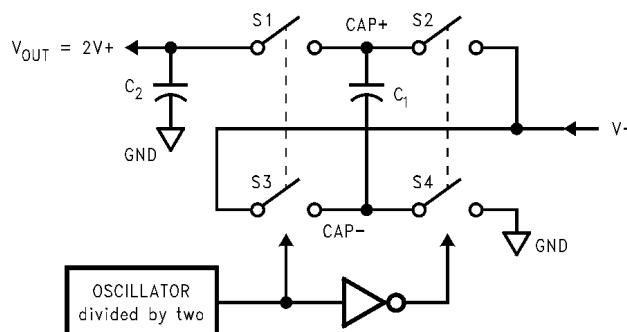

Figure 9-2. Voltage Doubling Principle
The LM2767 contains four large CMOS switches which are switched in a sequence to double the input supply voltage. Energy transfer and storage are provided by external capacitors. Figure 9-2 illustrates the voltage conversion scheme. When  $S_2$  and  $S_4$  are closed,  $C_1$  charges to the supply voltage  $V_+$ . During this time interval, switches  $S_1$  and  $S_3$  are open. In the next time interval,  $S_2$  and  $S_4$  are open; at the same time,  $S_1$  and  $S_3$  are closed, the sum of the input voltage  $V_+$  and the voltage across  $C_1$  gives the  $2V_+$  output voltage when there is no load. The output voltage drop when a load is added is determined by the parasitic resistance ( $R_{ds(on)}$  of the MOSFET switches and the ESR of the capacitors) and the charge transfer loss between capacitors. Details are discussed in Section 9.
- $R_{SW}$  is the sum of the ON resistance of the internal MOSFET switches shown in Figure 9-2.